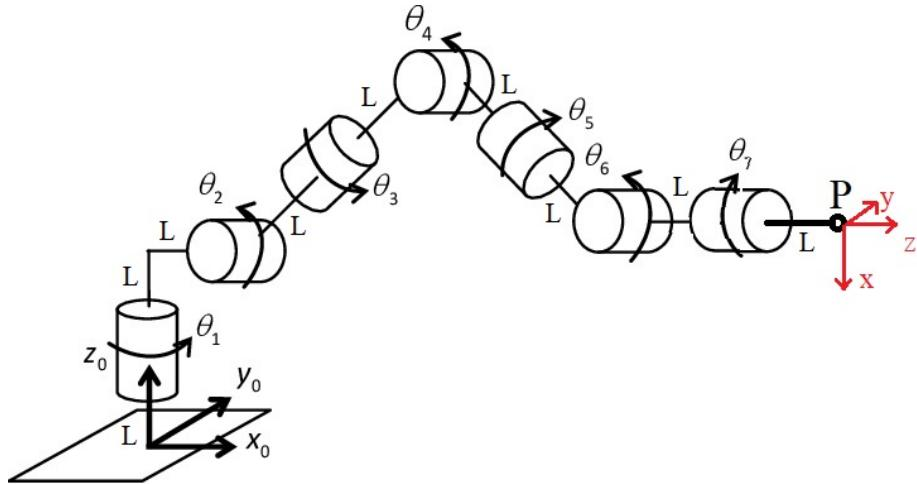

Figure 4: (From exercise 4) Schematic of a redundant manipulator.
3. Then take the manipulator depicted in Fig. 4 and write an inverse kinematic solver in Matlab for this robot (without using any of the functions pre-made in the matlab library, such as *IKinSpace*) and prove that your solver works correctly by testing for various configurations of your choice.
Hyper-redundant manipulators are manipulators with more than 6 Degrees of Freedom which are suitable for undertaking complex tasks; an example of this type of manipulators is given in Fig. 4. Write a series of Matlab scripts and provide clear written explanation in the text about all the mathematical steps to solve the following problems: